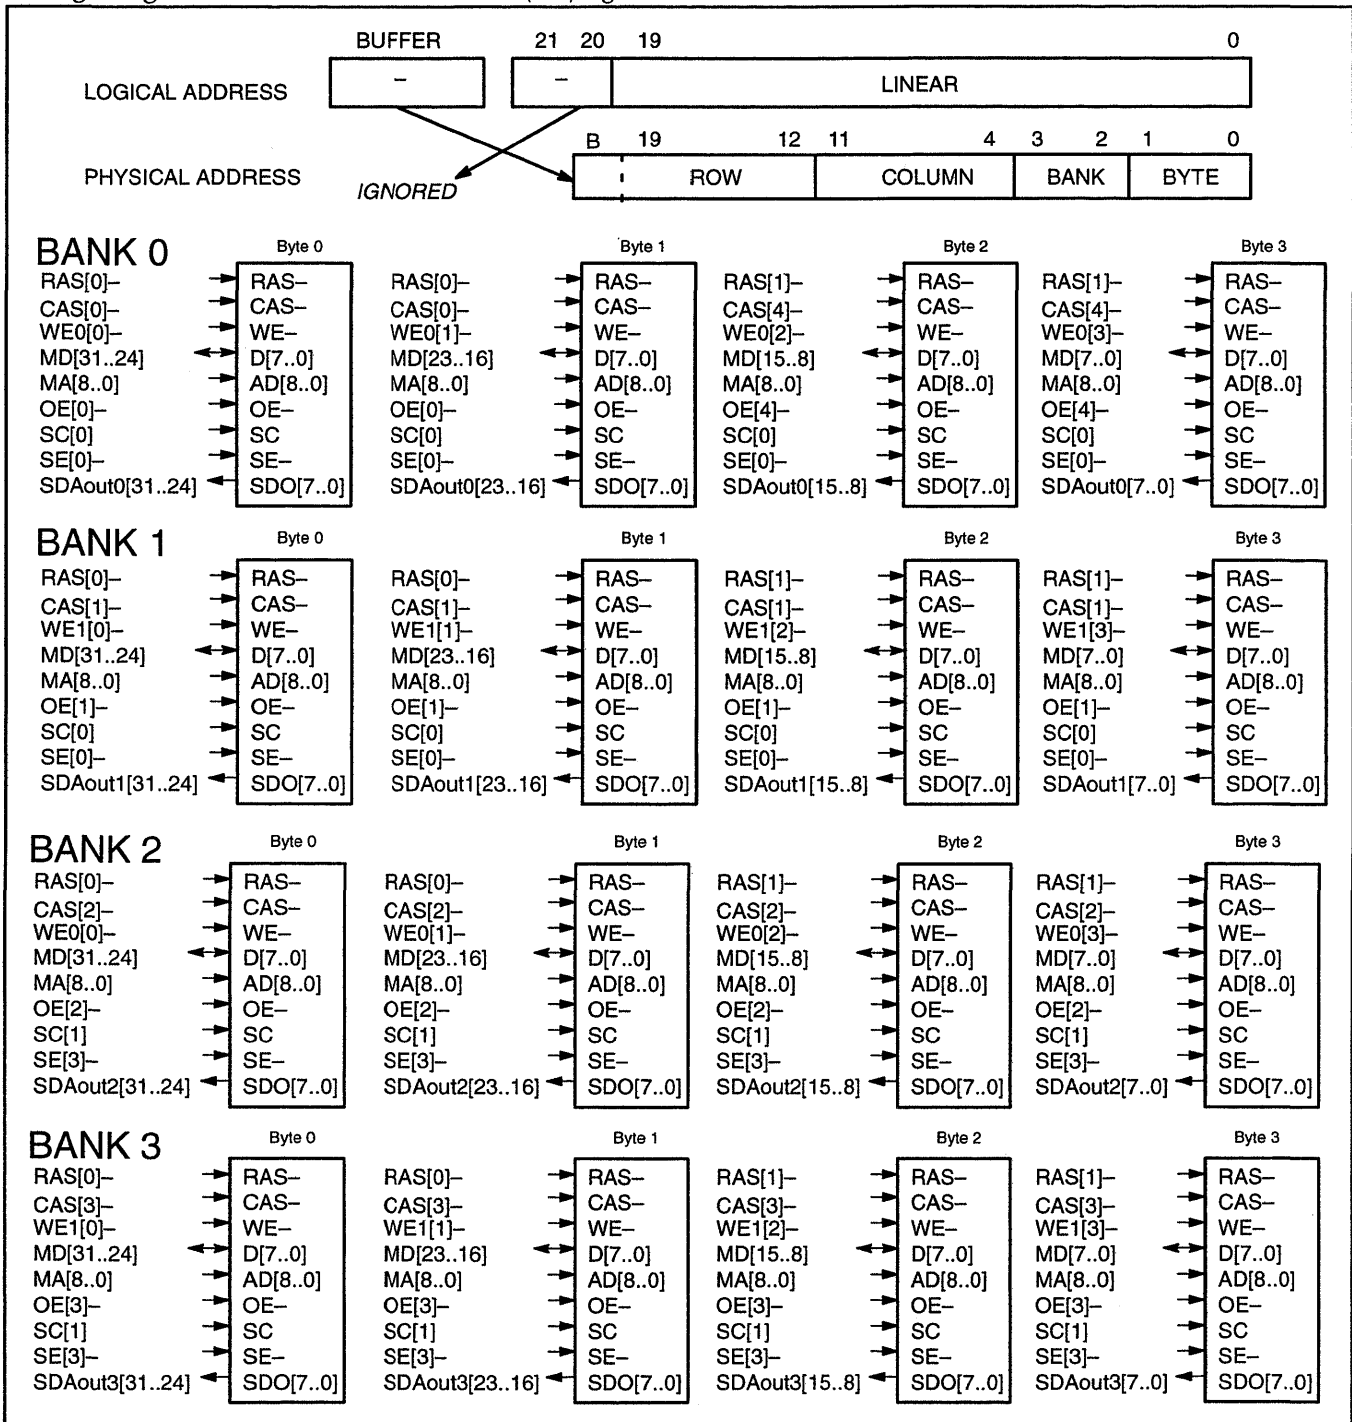

Figure 110. Config 11 (mem_config.config = 1011) 4 banks of 128K VRAMS, 2 buffers of 1MB
Figure 110 assumes that you are using a 64-bit wide RAM-DAC. If you are using a 32-bit wide RAMDAC, use external logic to generate additional serial enable (SE) signals to address banks 1 and 2. Refer to the *Power 9100/Video Power Board Application Note* for more information.